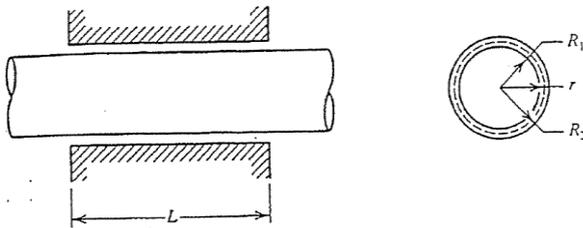

Figure Q1a
a) Show that the force for the Journal oiled bearing shown in figure Q1a is